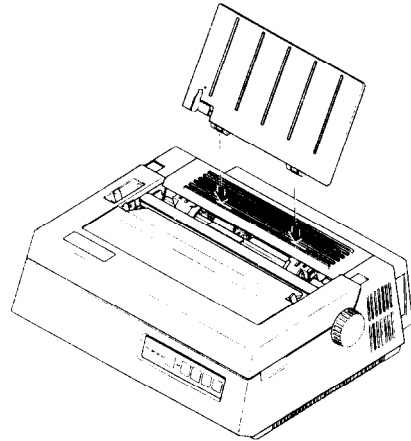

Figure 1-4. Assembly of the cut sheet guide.
- If you haven't installed the cut-sheet guide yet, please do it now. (Please refer to Fig.1-4.)